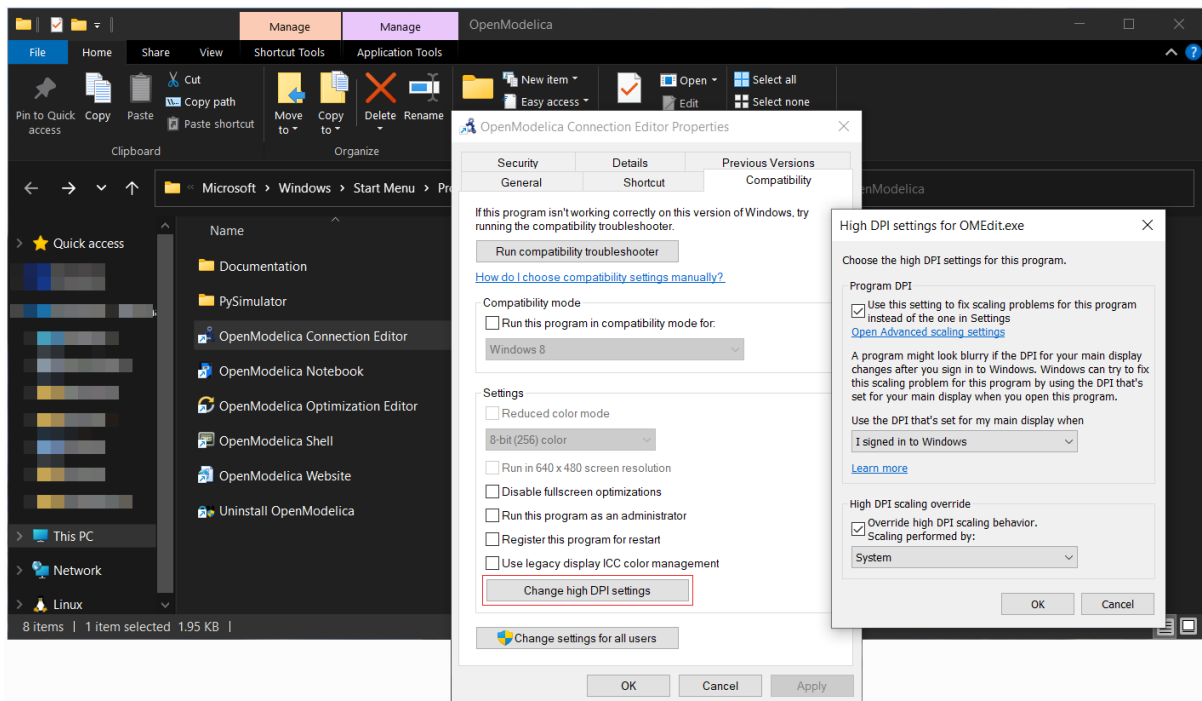

Figure 3.25: Change high DPI settings for OMEdit.exe
3. In the properties window go to tab *Compatibility* and open *Change high DPI settings*. In the *High DPI settings for OMEdit.exe* choose *Use the settings to fix scaling problems for this program instead of the one in Settings* and *Override high DPI scaling behavior*. *Scaling performed by:* and choose *System* from the drop-down menu, Figure 3.25.